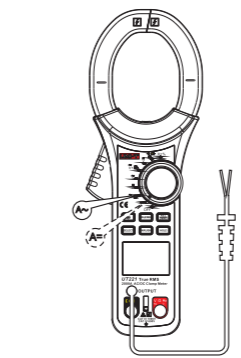

Figure 11
9. Current signal output function (See Figure 11)